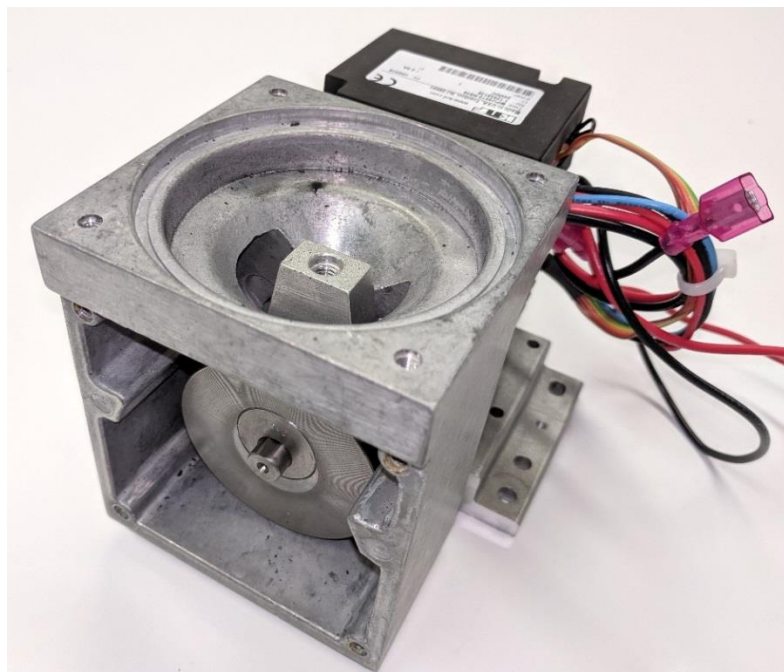

Figure 78: Pump Housing with Mild Amount of Dirt
7. Inspect the pump housing for any dirt or debris. Some dirt is visible in the example shown in Figure 78; this pump housing would require mild cleaning. Clean the pump housing using a clean dry cloth and compressed air (if available). Do not use solvents for cleaning as they may cause damage to some parts.